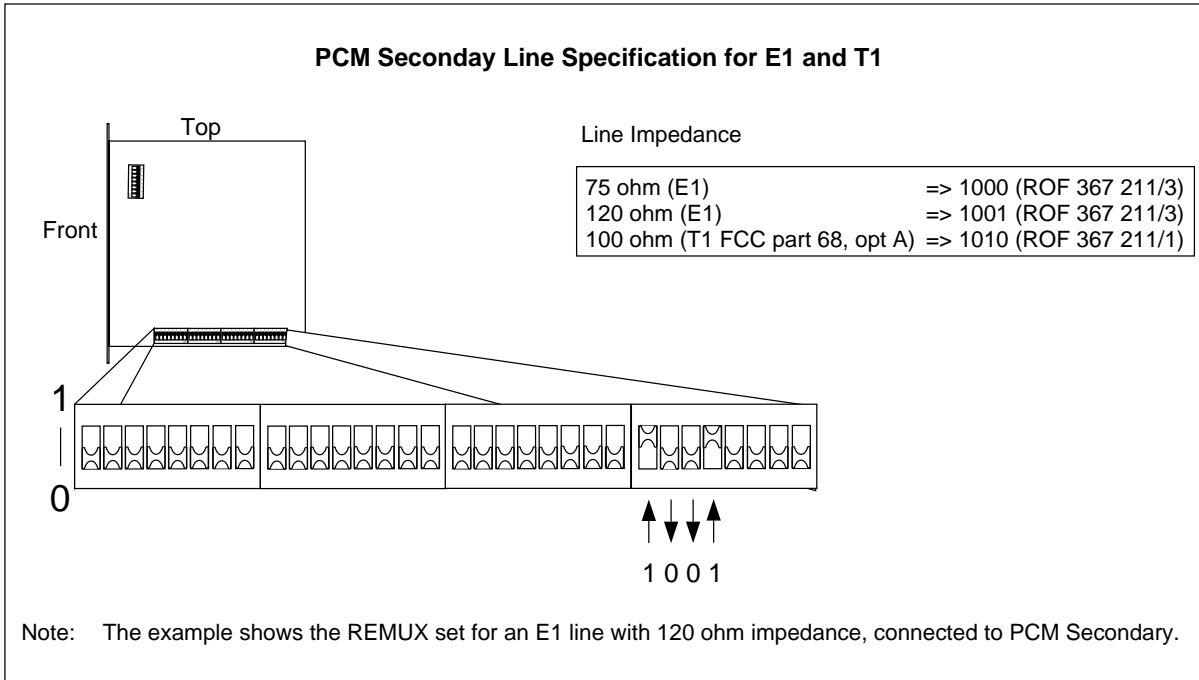

Figure 4-22. Settings for the PCM Secondary Line Specification, E1 and T1
- If impedance is used (for E1 transmission, and T1 FCC part 68, option A), see Figure 4-22 on page 4-40.